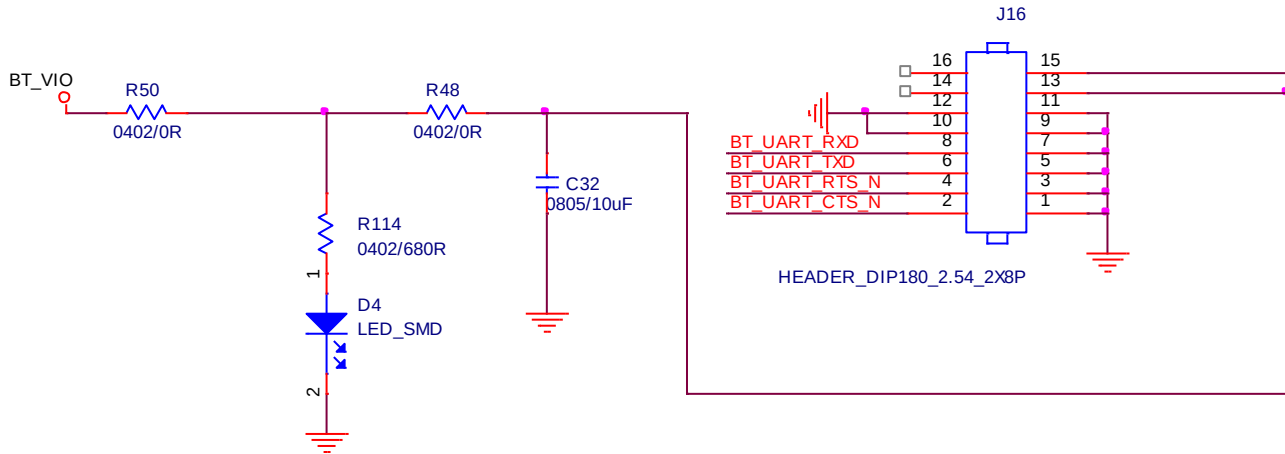

Figure4. Bluetooth verification connection interface to Host UART
- ❖ Refer to Figure4 UART pin definition connects the J16 interface of AP6275P/PR3 evaluation board to Host UART control interface.